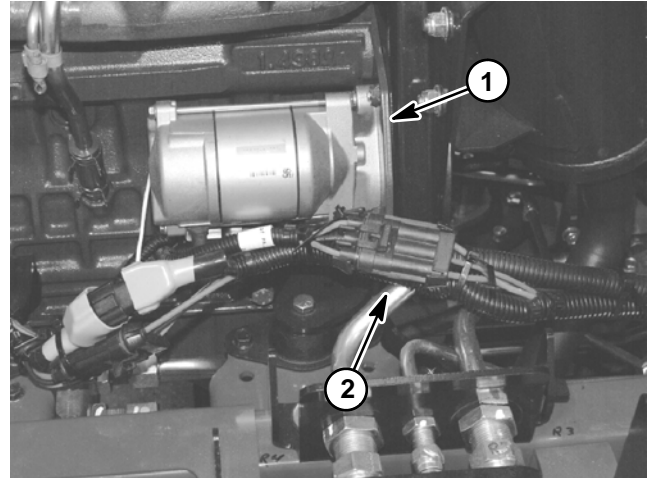

Figure 44
The Groundsmaster 4300-D uses four (4) fusible links for circuit protection. Three (3) of these fusible links are located in a harness that connects the starter B+ terminal to the wire harness (Figs. 44 and 45). The remaining fusible link is included in the wire harness and connects the starter terminal to the engine run solenoid pull coil. If any of these links should fail, current to the protected circuit will cease. Refer to wire harness drawings in Chapter 8 - Foldout Drawings for additional fusible link information.